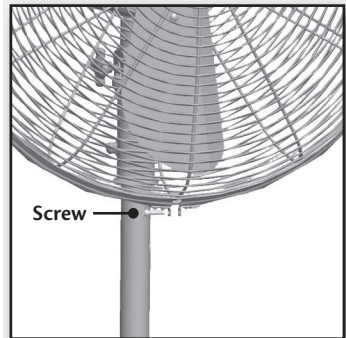

Figure 18
- Tighten the screw to secure the grill ring over both the front and rear grill. Figure 18.